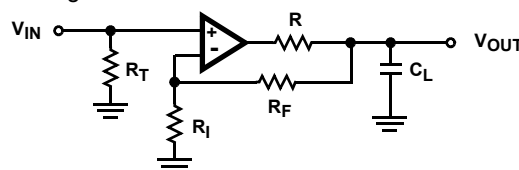

FIGURE 6. PLACEMENT OF THE OUTPUT ISOLATION RESISTOR, R
Capacitive loads will degrade the amplifier's phase margin resulting in frequency response peaking and possible oscillations. In most cases the oscillation can be avoided by placing an isolation resistor (R) in series with the output as shown in Figure 6.